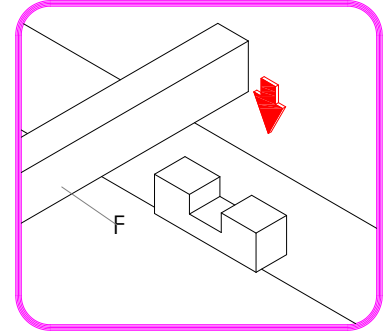

FIGURE 8
On inside face of both headboard and footboard are pre-installed wooden brackets for the support slat (F). Set the support slat (F) on the wooden brackets, as illustrated in **FIGURE 8**.